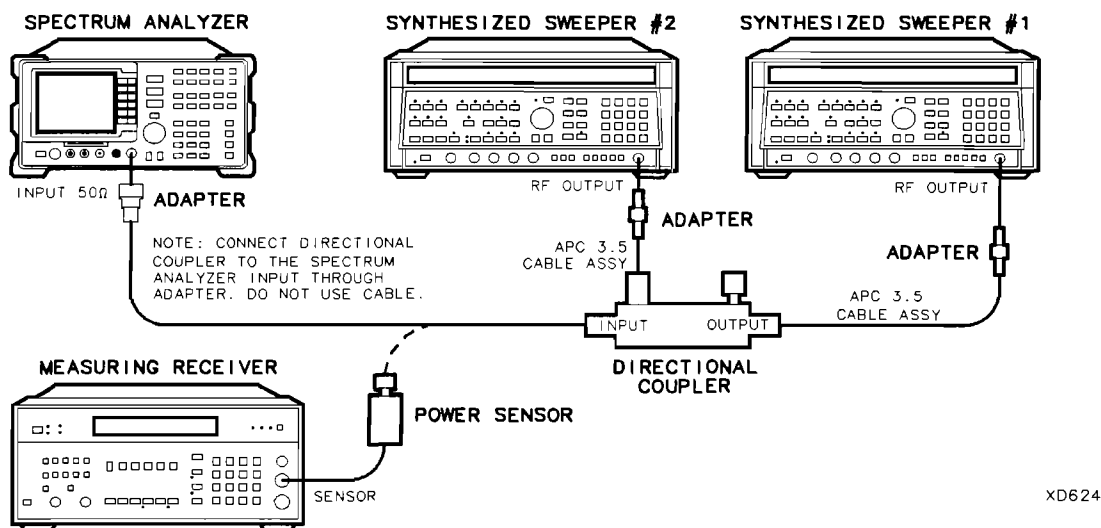

Figure 2-62. Gain Compression Test Setup
2. Connect the equipment as shown in Figure 2-62, with the output of the directional coupler connected to the power sensor.
15. Connect the equipment as shown in Figure 2-62.